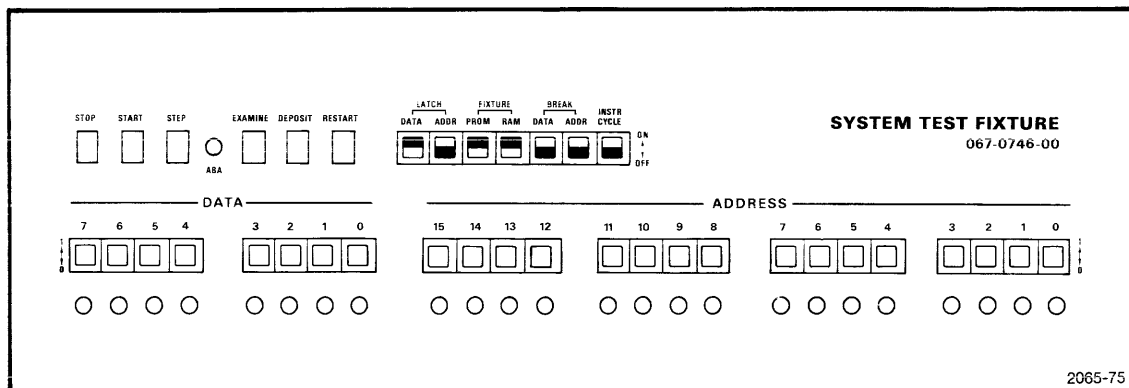

Fig. 5-27.
4. Set the seven control switches to the positions indicated in Fig. 5-27.